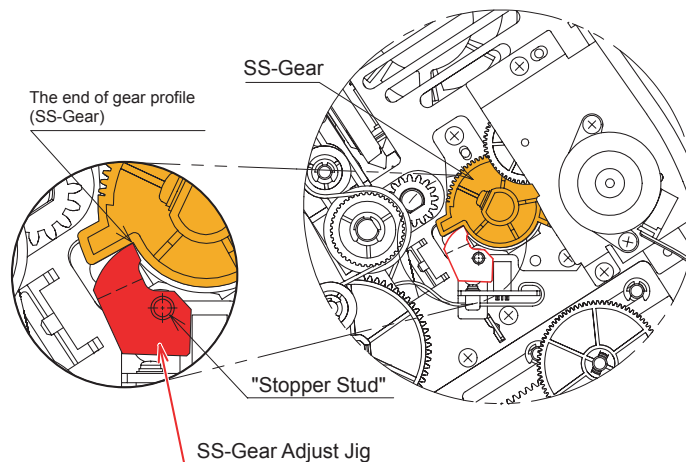

Figure 5-7. Installing the SS-Gear Block Jig
2. Install the SS Gear Block Jig on the Stopper Stud on the left frame as shown in Figure 5-7. Turn the SS Gear, attached to the left-end of carriage guide shaft, until it firmly contacts the jig.